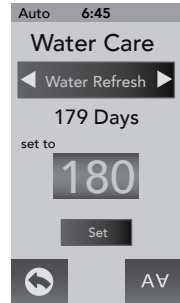
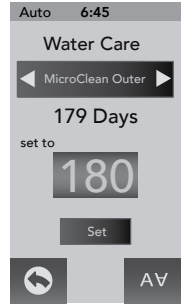
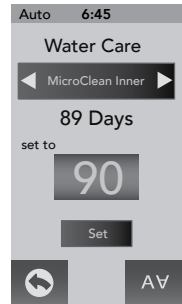

Figure 12.7d
Figure 12.7e
Figure 12.7f
1. From the “Water Care” Menu you can to set the “Water Refresh” timer, Figure 12.7d.
A programmable filter timer can be set to remind you when to clean or replace the MicroClean Outer Filter. Tap ► (Figure 12.7d) until you reach the “MicroClean Outer” tab to enter the Programming Menu (Figure 12.7e).
1. From the “Water Care” Menu you can to set the MicroClean Outer timer, Figure 12.7e.
A programmable filter timer can be set to remind you when to replace the MicroClean Inner Filter. Tap ► (Figure 12.7e) until you reach the “MicroClean Inner” tab to enter the Programming Menu, Figure 12.7f.
1. From the “Water Care” Menu you can to set the MicroClean Inner timer, Figure 12.7f.